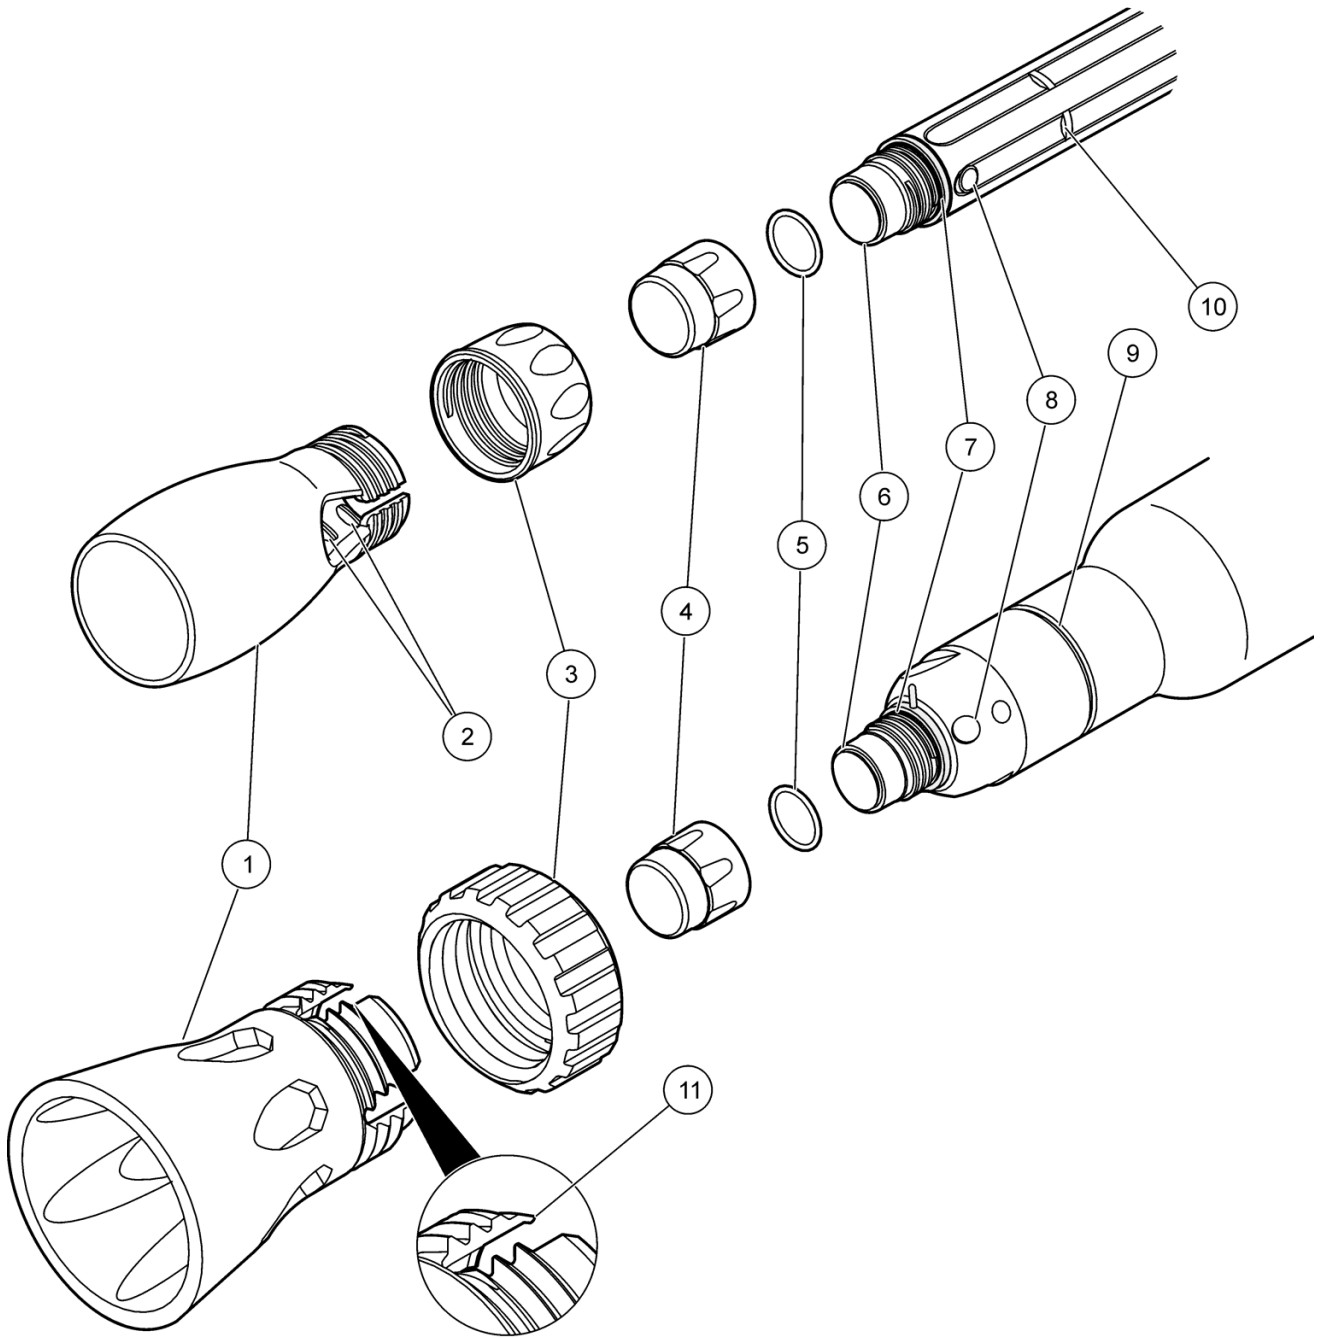

Figure 3 Sensor exploded view
2. Slide the shroud on the probe until it is seated in the locking groove (rugged) or ribs (standard). Slide the standard probe shroud on the standard probe until the inside locking ridges align halfway between the ribs on the probe. Rotate slightly until the shroud is seated (Figure 3).